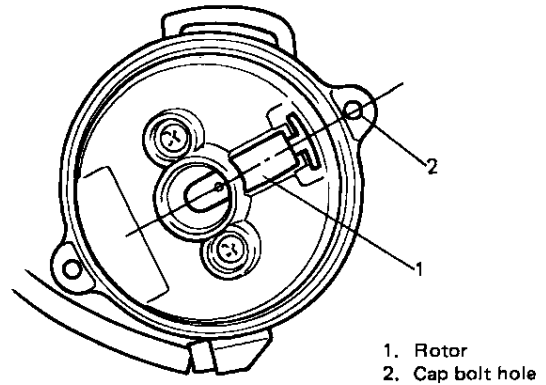

Fig. 8-16 Distributor Rotor Position
2. Turn rotor to make the center of rotor align with the cap bolt hole center on distributor housing as shown in Fig. 8-16.